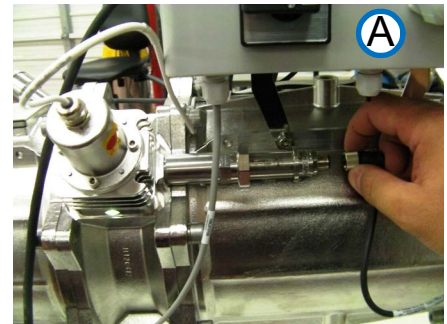

Figure 10-30: Removing connector A (Generic View)
- Step 1.** To disconnect the harness connector (shown in view A, Figure 10-30), unscrew the sensor's threaded locking nut.